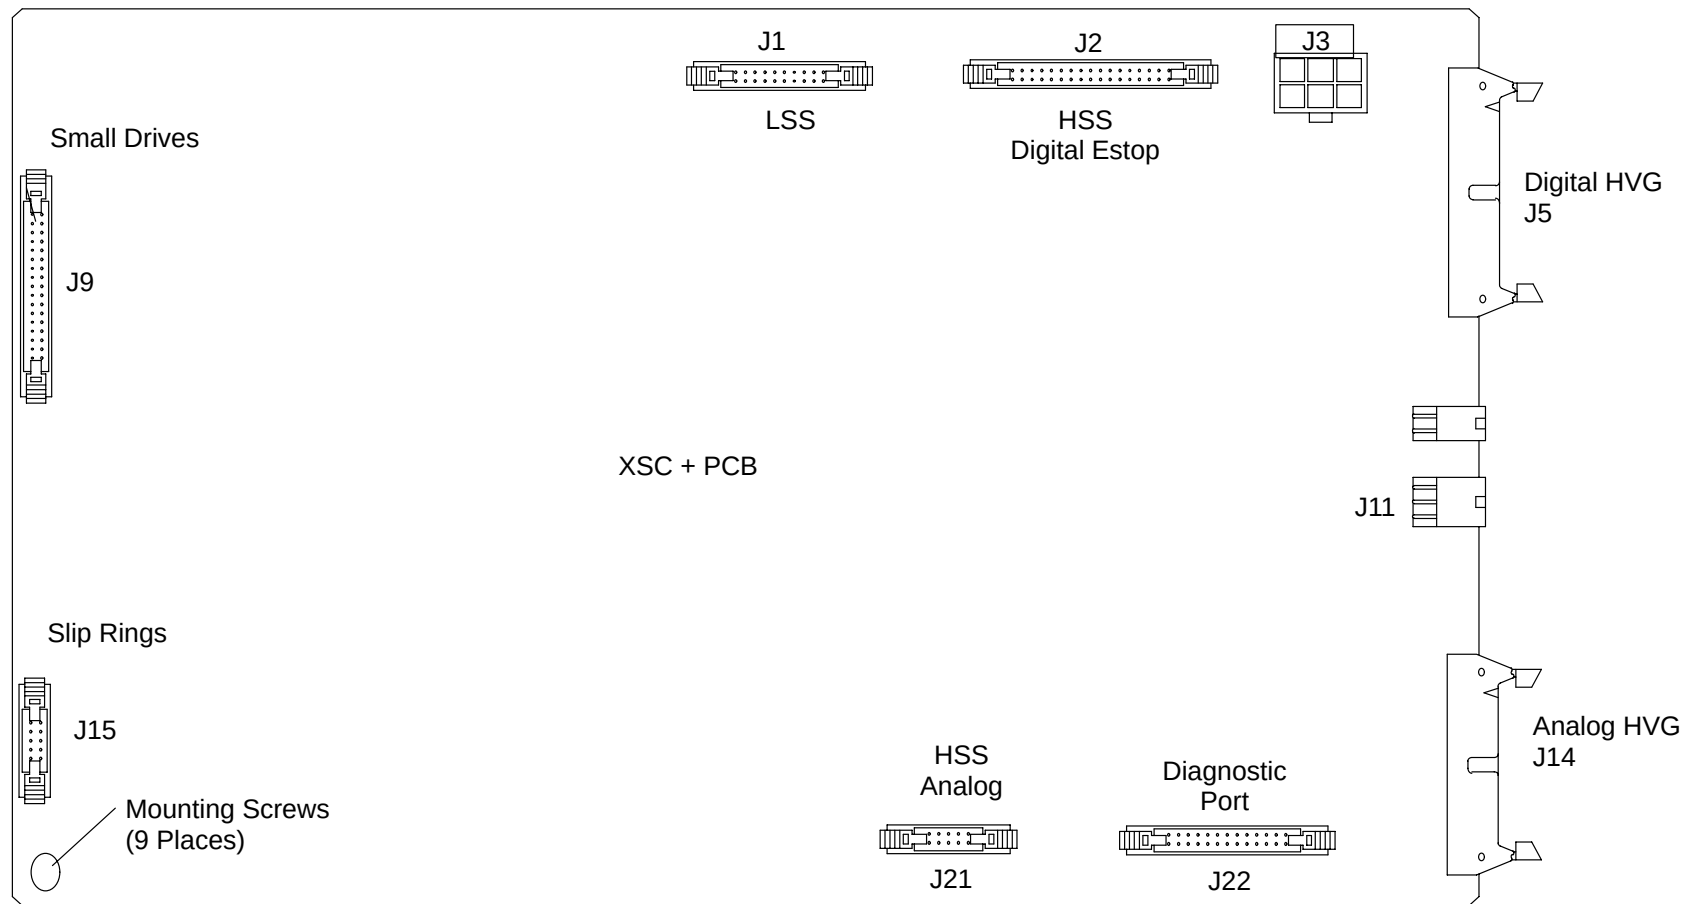

FIGURE 257 XSX+ PCB
8. Tag and remove Cables connected to J2, J3, J5, J9, J10, J11, J14, J15, J21 and J22. Cut and remove any Tie Wraps necessary to remove Cables. See Figure 257.